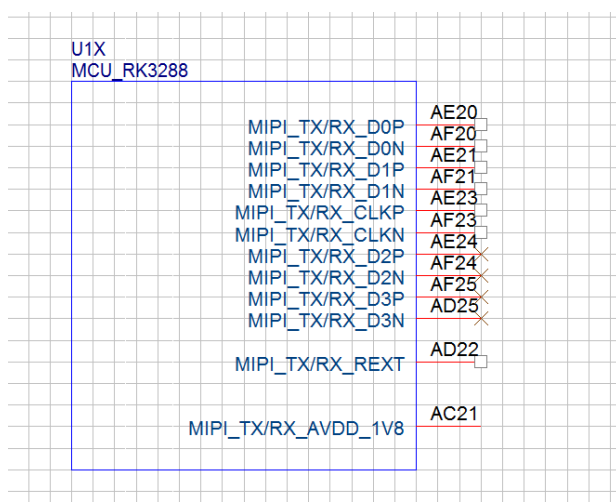
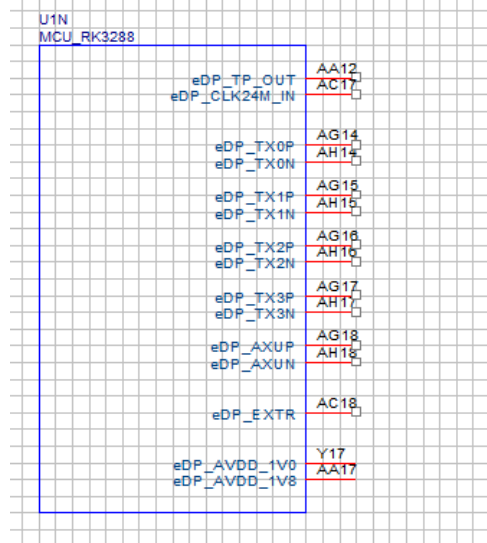

Figure 14-7
Figure 14-8
- In RK3288, place the power supply pins into each module in the display modules of independent power supply, and unavailable modules can break power supply to reduce the power dissipation, shown as Figure 14-7 and Figure 14-8.